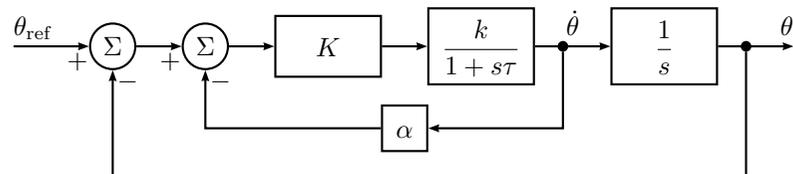

Figure 3.6a
3.6 Consider the servo system in Figure 3.6a with a DC-motor. Suppose that the angular velocity can be measured with a tachometer and let the control law be as in the block diagram. Let  $\tau = 0.5$  and  $k = 2$ .